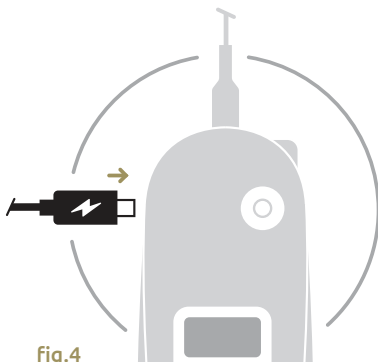

fig.4
- 9 Connect the supplied charger to the driver charging port. (fig.4)